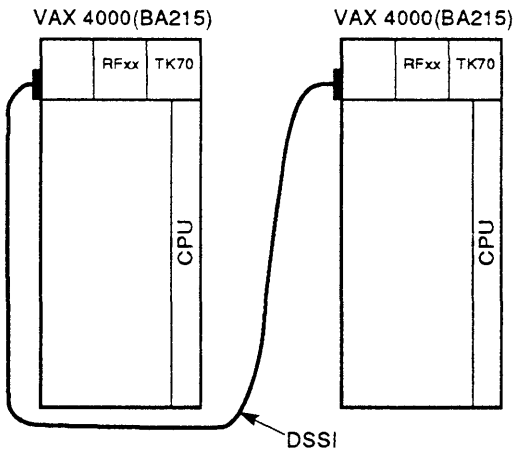

**Figure 2-2: Dual VAX 4000 Model 300 (BA440) as Dual DSSI/Dual Hosts**
- Figure 2-2: Dual VAX 4000 Model 300 (BA440) as dual DSSI/dual hosts
In Figure 2-2, one DSSI bus (cable running from far left of Host A to far left of Host B) shares the ISEs installed on the two systems. The other DSSI bus can be used for communications.